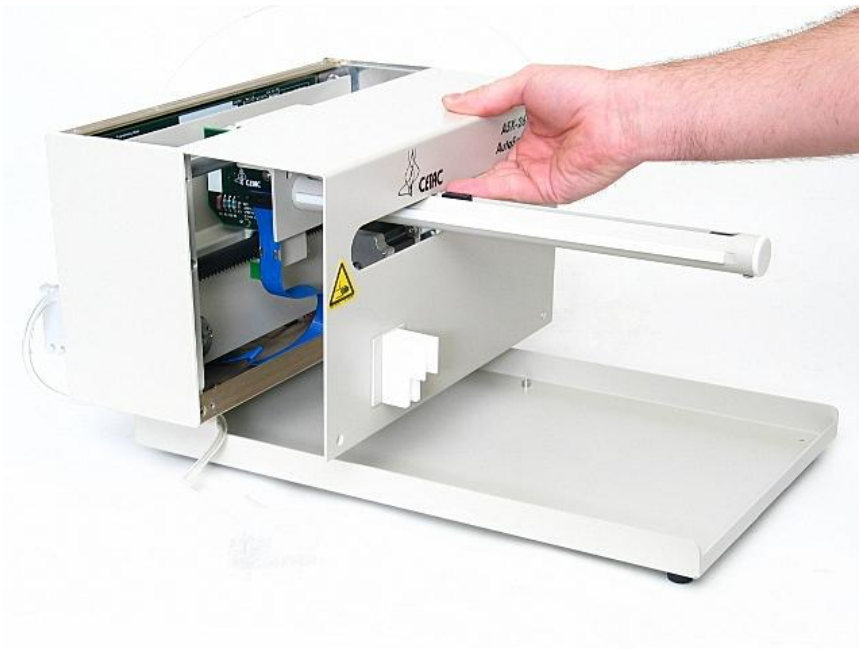

**Figure 1-6.** Removing the tray.
5. The autosampler tray should then be removed. Lift up the tray and pull out (Figure 1-6).